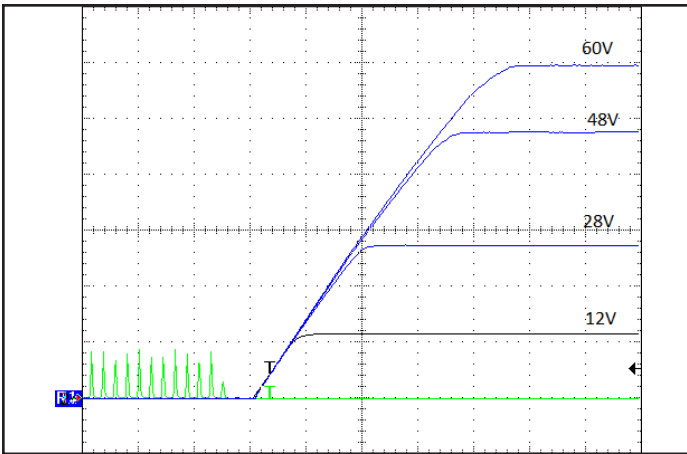

Figure 7: Turn-on transient at 28V input; full load (10ms/div). Top Traces:  $V_{out}$  (10V/div). Bottom Trace: ON/OFF input (5V/div)
**REMOTE ON/OFF:** Only Negative On/Off logic is available in the converter series: logic high at the input turns the converter Off while a logic low turns in On. Timing of this is shown in Figures 7, 8. A high level can be driven to any voltage between 1.5V and 3.3V, or simply left floating as the unit contains an internal 25KΩ pull-up to 5.0V. The pin can be pulled low (to  $V_{sense-}$ ) by an optocoupler, an open-source/drain transistor or wired permanently to  $V_{sense-}$ . To provide noise immunity the input has 0.3V of hysteresis.